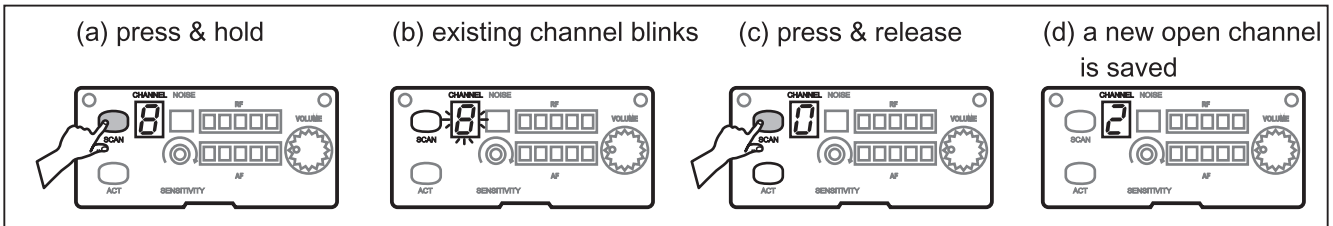

Fig. 5
Press and hold Channel (CH) button **A6** to perform a channel scan. Existing channel blinks to denote it is ready to accept parameter changes. During blinking, press and release Channel button to scan and stop for an open channel. This new channel is now saved. If Channel button is not pressed within six blinks, it stops blinking and reverts back to the existing channel, Fig. 5.